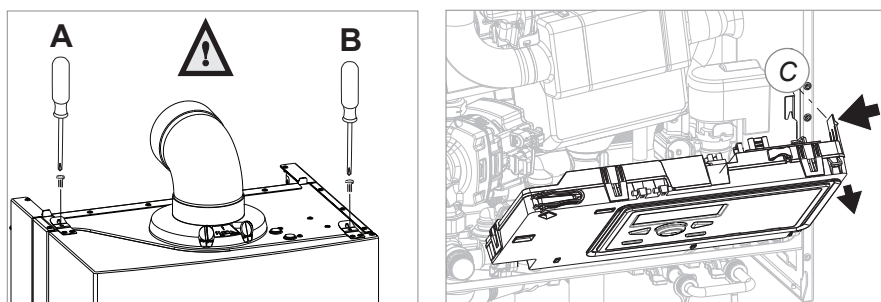

Figure 16.a
- Remove the screws from the 2 fasteners A and B (see fig. 16.a);
Siphon (see fig. 16.b)